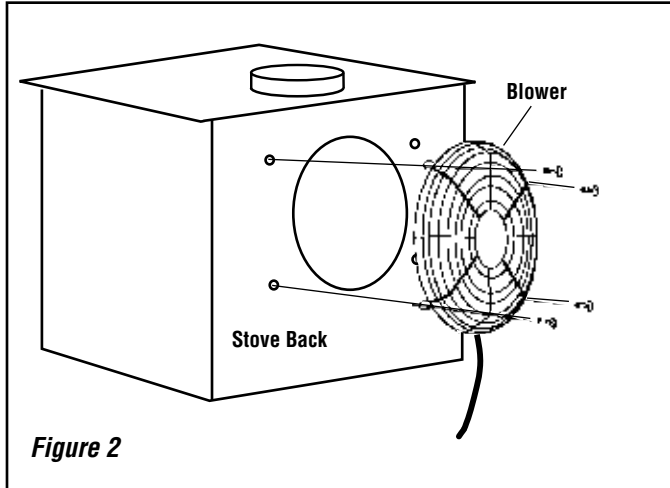

Figure 2
Step 2. Using a 5/32 allen wrench/T-handle, remove the blower mounting allen screws from blower, and remove blower from stove. See *Figure 2*.
Step 15. Reinstall the blower assembly as shown in **Figure 2** and the following instructions; Ensure the wiring harness on the blower cage is at the bottom right when mounted to the back heat shield of the stove. Be aware that the blower wiring harness should be clear of the back of the firebox and blower fan blades. The blower can now be fastened to the back of the heat shield with the four screws and washers that were removed earlier in this step using the 5/32" allen wrench/T-handle. Visually inspect that the blower is centered in large opening on the back of the heatshield. If not centered in the opening the fan blades could make contact with the heatshield making excessive noise. Once everything is correctly in place you can then tighten down all four screws. **Tighten the screws moderately tight but do not over tighten as you may strip the holes out.**